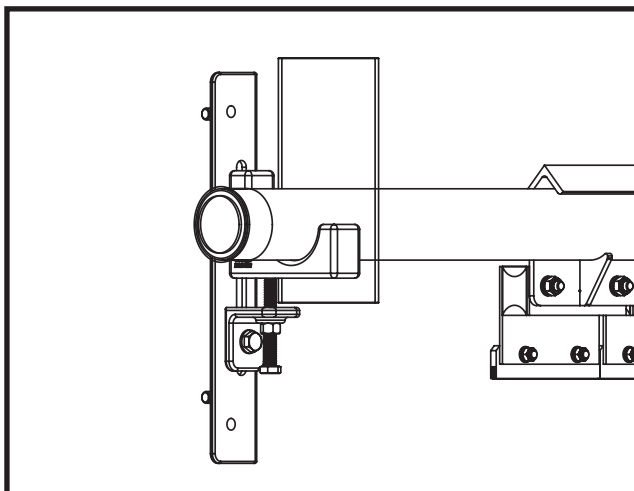

Figure 9. Martin® P2 Secondary Belt Cleaner HD Operator Bolt Tensioner Mainframe Fitting
5. Fit the mainframe mandrel to the mounts. Slide the mandrel onto one of the mount brackets, then through the cutouts and onto mount on the opposite side letting it rest. Tips are allowed to hang down. (Refer to Figure 9.)